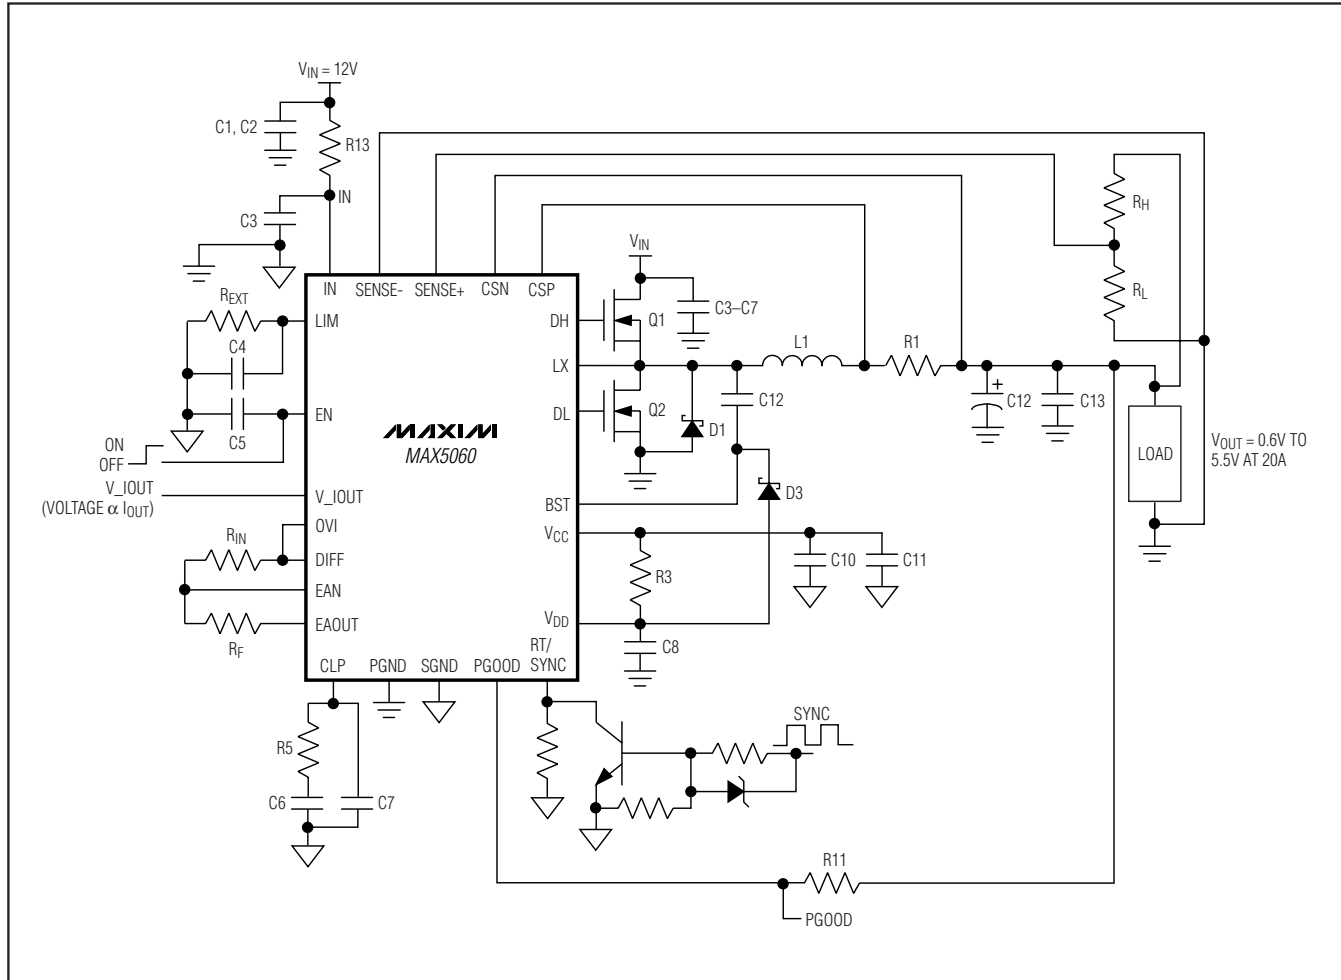

Figure 1. Typical Application Circuit, $V_{IN} = 12V$ (MAX5060)
($T_A = +25^\circ\text{C}$, Figures 1 and 2, unless otherwise noted.)
Use an open-collector transistor to synchronize the MAX5060/MAX5061 with the external system clock (see Figures 1 and 2).
The VEA output clamps to 930mV relative to the internally generated common-mode voltage (V_{CM} , 0.6V), thus limiting the maximum output current. The maximum average current-limit threshold is equal to the maximum clamp voltage of the VEA divided by the gain (34.5) of the current-sense amplifier. This results in accurate settings for the average maximum current for each phase. Set the VEA gain using R_F and R_{IN} (see Figures 1 and 2) for the amount of output voltage positioning required within the rated current range as discussed in the *Adaptive Voltage Positioning* section. The finite gain of the VEA introduces an error in the output voltage setting. Use the following equation to calculate the output voltage at no load condition.
The high-side (DH) and low-side (DL) drivers drive the gates of external n-channel MOSFETs (Figures 1 and 2). The drivers' 4A peak sink- and source-current capability provides ample drive for the fast rise and fall times of the switching MOSFETs. Faster rise and fall times result in reduced cross-conduction losses. For modern CPU voltage-regulating module applications, where the duty cycle is less than 50%, choose high-side MOSFETs (Q1) with a moderate $R_{DS(ON)}$ and a very low gate charge. Choose low-side MOSFETs (Q2) with very low $R_{DS(ON)}$ and moderate gate charge. Size the high-side and low-side MOSFETs to handle the peak and RMS currents during overload conditions.